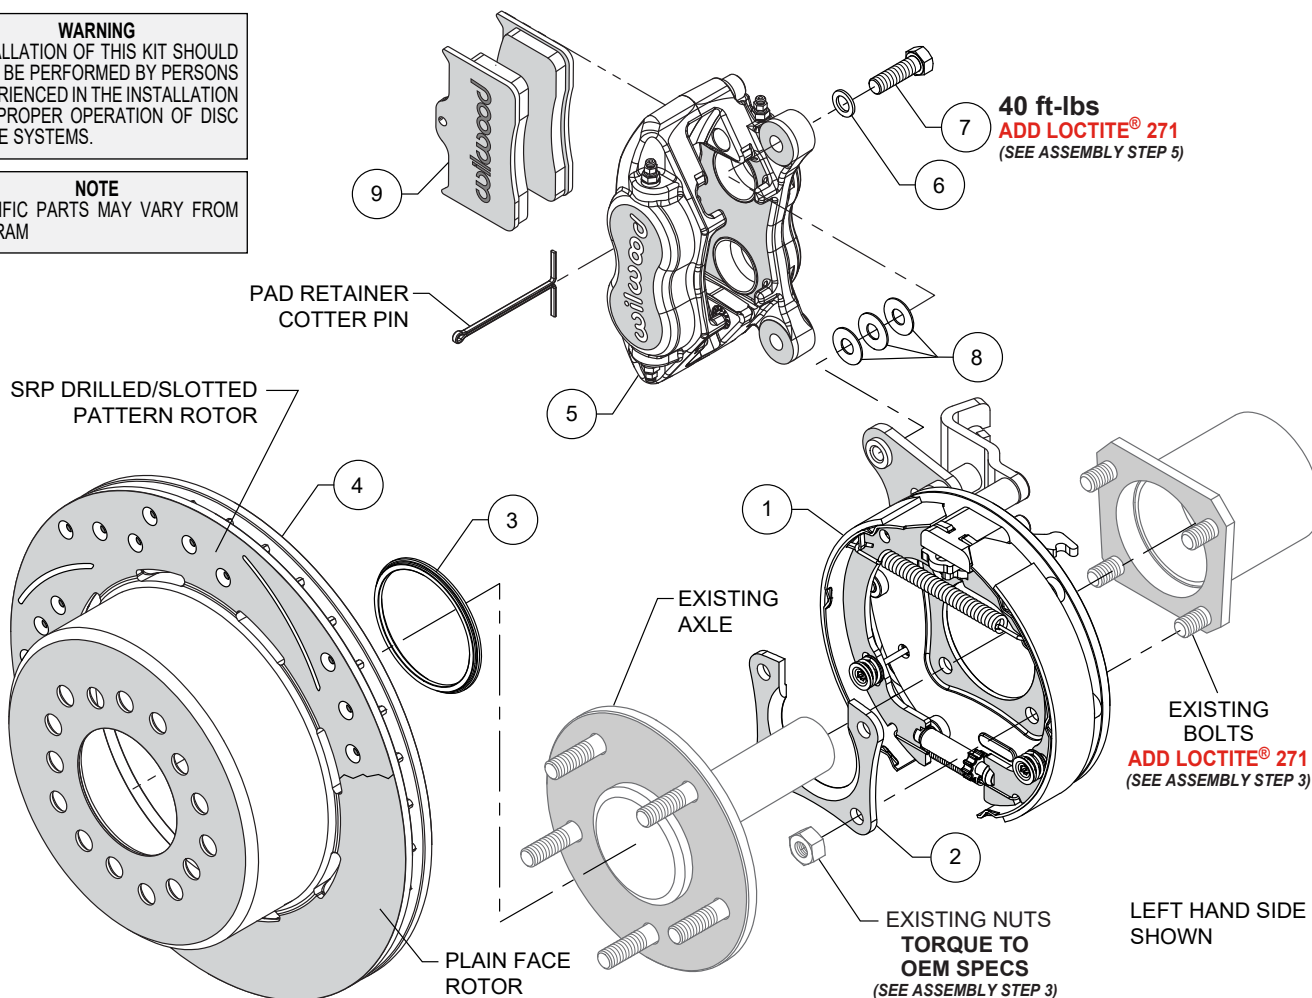
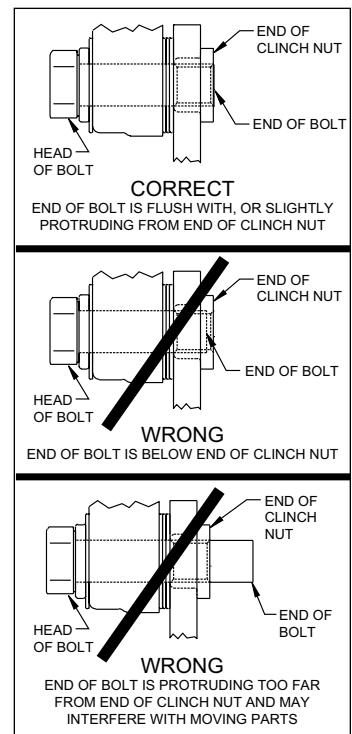

Figure 1. Typical Installation Configuration
Figure 5. Clinch Nut Engagement Diagram
NOTE: Numbers in parenthesis refer to the parts list and Figure 1 on the preceding pages.
CAUTION: All mounting bolts must fully engage clinch nuts. Be sure to check that all bolts are either flush or protruding through flanged side of clinch nut after shimming, Figure 5.
STEP 1 Orient the bracket assembly (1) as shown in Figure 1 and Photo 1 and slide it onto the axle.
STEP 2 Insert the axle with the bracket assembly (1) into the axle housing. Ensure that the bracket assembly backing plate fits flush against the axle housing flange.
STEP 3 Install the bearing retainer (2) with the opening pointing upward and the lip facing inward (toward the bearing), as shown in Figures 1 and 4, and Photo 2. Secure the bearing retainer and bracket assembly to the axle housing flange using the Original Equipment Manufacturer (OEM) bolts and nuts, Figure 1. Apply red *Loctite*® 271 to the OEM bolt threads and torque to OEM specifications.
STEP 4 Slide the rotor registration adapter (3) onto the axle register on the axle flange with the smaller O.D. facing toward the rotor/hat (4), Photo 3. Align the correct hole pattern in the rotor/hat with the stud pattern on the axle flange and slide into place, Figure 1 and Photo 4. **NOTE:** *The rotor/hat must fit flush against the axle flange or excessive rotor run out may result.* Install three lug nuts (finger tight) to keep the rotor/hat assembly in place while continuing with the installation, Photo 4. **NOTE:** *Some OEM and after market axles come with stud sizes larger than 1/2" diameter. Verify stud size and have a qualified machine shop drill the bolt circle of the hat/rotor to the correct stud size, if necessary.*
STEP 5 **NOTE:** *Please reference the caution statement at the beginning of the assembly instructions.* Mount the caliper (5) onto the caliper mounting bracket (1) using bolts (7) and washers (6), as shown in Figure 1. Initially place three .035" thick shims (8) on each bolt between the caliper and the bracket, Photo 5. Temporarily tighten the mounting bolts and view the rotor (4) through the top opening of the caliper. The rotor should be centered in the caliper, Photo 6. If not, adjust by adding or subtracting shims between the bracket and the caliper. Always use the same amount of shims on each of the two mounting bolts. **NOTE:** *The end of each bolt must be flush with or slightly protruding from the head of the clinch nut, as shown in Figure 5.* If necessary place spare shims between washer (6) and caliper mounting ear to achieve the proper clinch nut engagement. Once the caliper alignment and clinch nut engagement are correct, remove the bolts (7) one at a time, apply red *Loctite*® 271 to bolt threads, and torque to value shown in Figure 1.
STEP 6 Install the disc brake pads (9) into the caliper, with the friction material facing the rotor (4), Photo 7. Secure in place using pad retainer cotter pin, Photo 8.
•NOTE: *Clevis and cable kits which attach to the parking brake assembly are not included in the Wilwood parking brake kit. Wilwood offers a generic style parking brake cable kit, P/N 330-9371 for this application which can be ordered separately from your local Wilwood dealer or by calling Wilwood customer service at (805) 388-1188.*
STEP 8 Install three lug nuts to hold the rotor/hat (4) securely in place, remove the rubber grommet in the bracket kit assembly (1) and adjust the parking brake shoes outward (using a drum shoe adjustment tool available at your local auto parts store) while spinning the rotor/hat (4) until a slight drag is felt against the hat/drum. Replace the rubber grommet when finished.